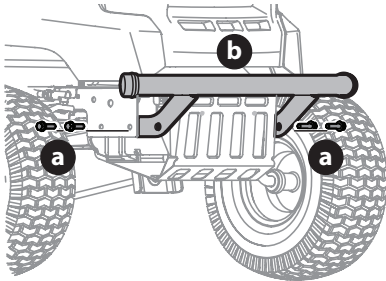

Figure 15
1. Remove the four hex screws (a) from the bumper (b) (Figure 15).
2. Position the bumper brackets to the inside of the tractor's frame and secure it in place with the four hex screws (a) (Figure 15).